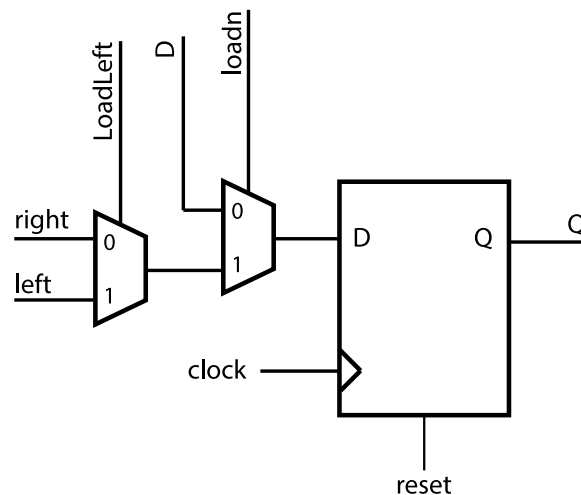
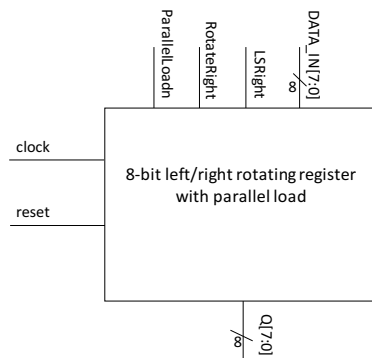

Figure 5: Sub-circuit for Part III.
Figure 6: Top-level circuit for Part III.
Figure 5 shows a positive edge-triggered flip-flop with several multiplexers. In this part of the lab, you will use eight instances of the circuit in Figure 5 to design a left/right 8-bit rotating register with parallel load shown in Figure 6.
The *LoadLeft* input of all eight instances of the circuit in Figure 5 should be tied to the single rotating register input *RotateRight* because when you want to rotate the bits right, you have to load the bit to the left. The *loadn* input of all eight instances should be tied to the single rotating register input *ParallelLoadn*. The *clock* input of all eight instances should be tied to the single rotating register input *clock*. Create an 8-bit-wide rotating register input *DATA\_IN*, whose individual wires *DATA\_IN7* to *DATA\_IN0* are tied to the *D* input of each instance of the circuit in Figure 5. Likewise, create an 8-bit-wide rotating register output *Q*, whose individual wires *Q7* to *Q0* are tied to the *Q* output of each instance of the circuit in Figure 5.
The remaining connections between the eight instances of the circuit in Figure 5 should realize the following behaviour:
1. Draw a schematic for the 8-bit rotating register with parallel load. Your schematic should contain eight instances of the sub-circuit in Figure 5 and all the wiring required to implement the desired behaviour. Label the signals on your schematic with the same names you will use in your Verilog code.
2. Starting with the code in Figure 2 for a flop flop, modify it to have an *active-high* synchronous reset. Combine this new flip flop with instances of the *mux2to1* module from Lab 2 to build the sub-circuit shown in Figure 5. To get you started, Figure 7, is a sample of hierarchical code showing the D flip flop with one of the 2-to-1 multiplexers connected to it.
4. Write a Verilog module for the rotating register with parallel load that instantiates eight instances of your Verilog module for Figure 5. This Verilog module should match with the schematic in your lab book.